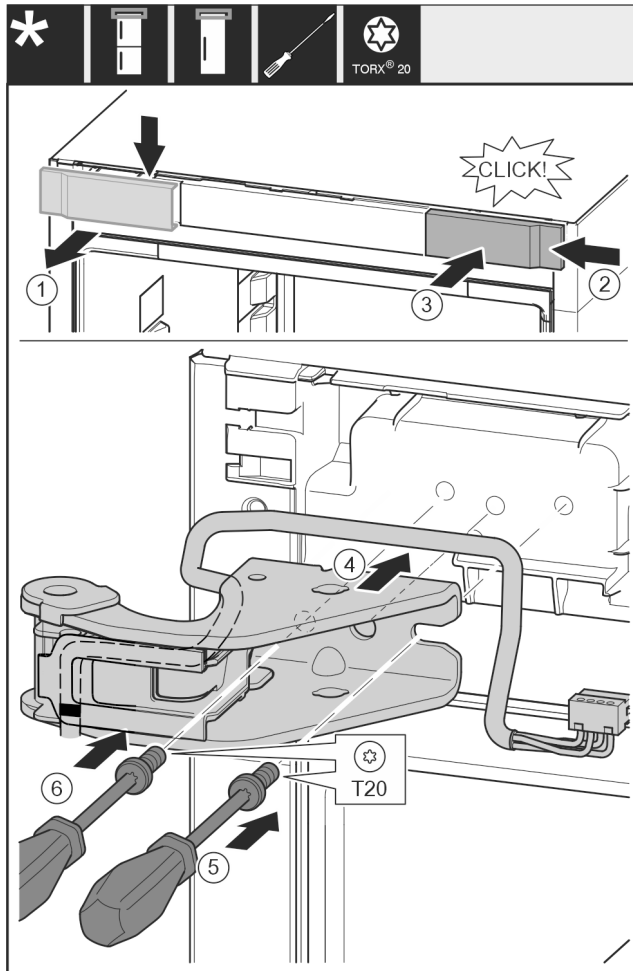

Fig. 33
- ▶ Remove the cover Fig. 33 (1) from above towards the front.
- ▶ Turn the cover Fig. 33 (2) by 180° and attach to the other side from the right.
- ▶ Engage the cover. Fig. 33 (3)
- ▶ Place the top swap bearing block Fig. 33 (4).
- ▶ Use screwdriver Fig. 33 (5) to place the screw and tighten it.
- ▶ Use screwdriver Fig. 33 (6) to place the screw and tighten it.